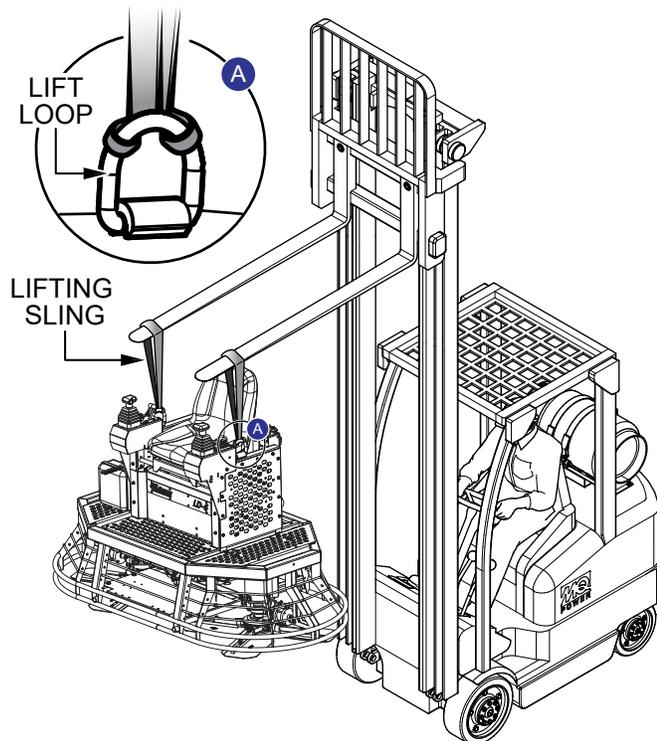

Figure 2. Lifting the Trowel
1. Secure the lifting slings to the lift loops (Figure 2) located to the left and right of the operator's seat.